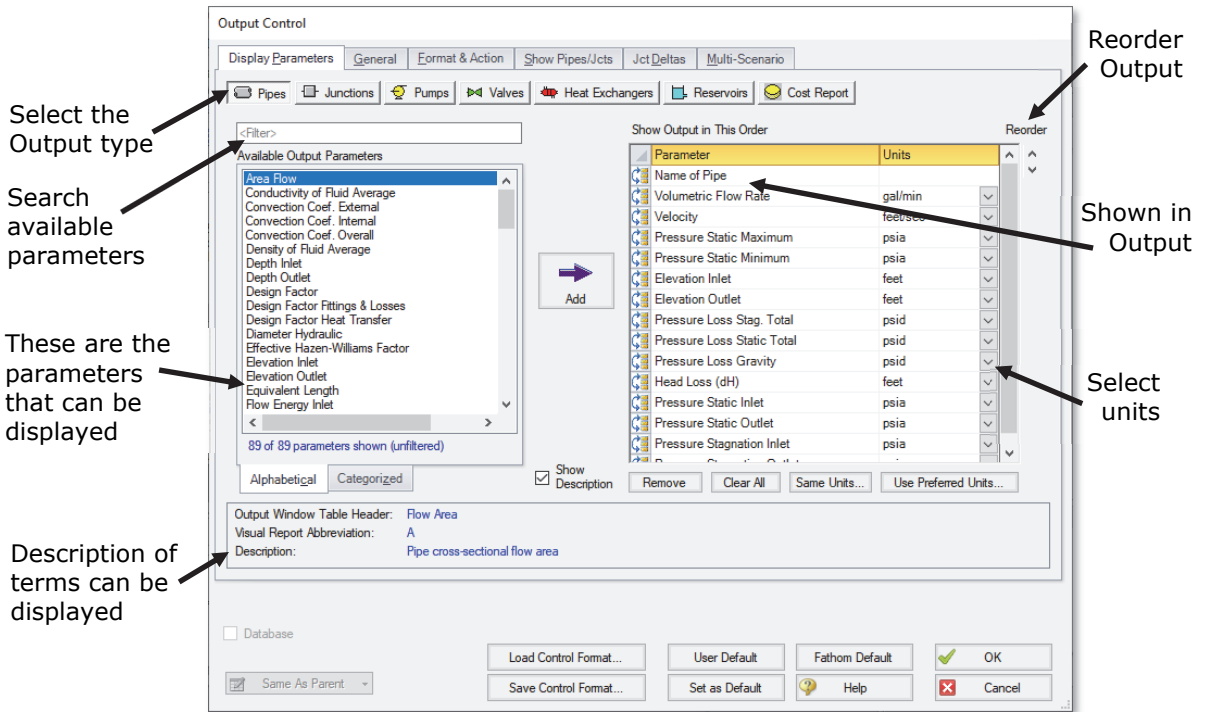

Figure 2.16 The Output Control window lets you customize the output
The Output Control window (Figure 2.16) allows you to select the specific output parameters you want in your output report. You also can choose the units for the output.
- **Select Output Control from the Tools menu** or Main Toolbar to open the Output Control Window (see Figure 2.16). On the Display Parameters tab, select the Pipes button. The list of selected pipe output parameters will be displayed on the right-hand side. Change the units for Volumetric Flow Rate by selecting gal/hr (gallons per hour) from the unit list shown beside the parameter.
- **Select Output Control from the Tools menu one more time.** On the Display Parameters tab select the Pipes button. The Reorder scroll bar on the far right allows you to reorder parameters in the list. You can also click on the reorder symbol on the left side of each row to manually drag-and-drop the rows to change the parameter order (see Figure 2.16).